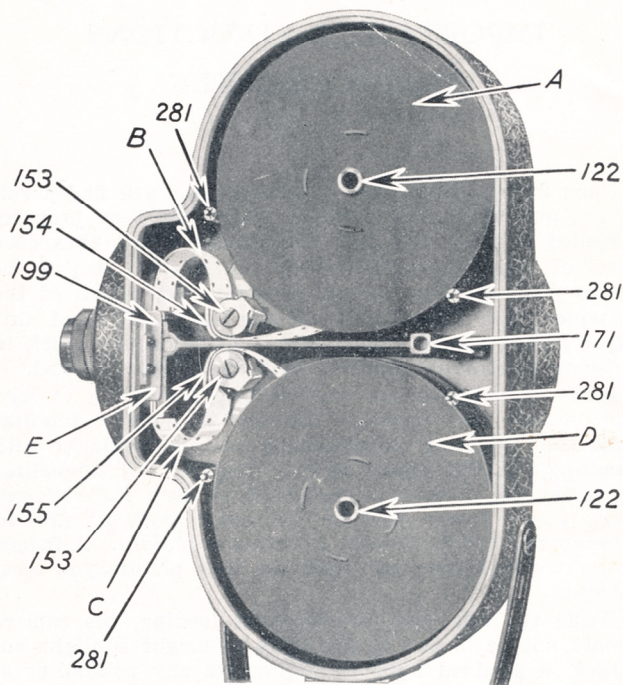
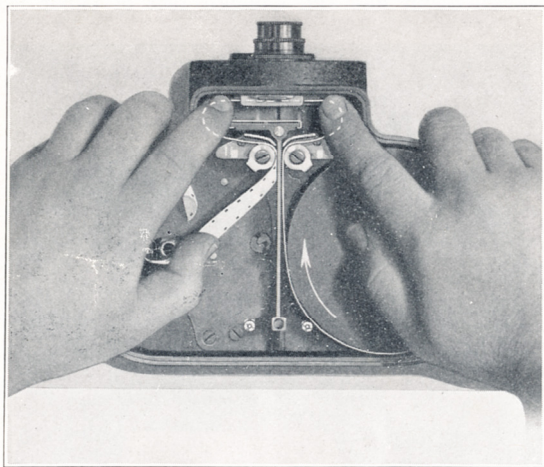

Fig. No. 5
Fig. No. 2
2. Form the upper and lower loops (see figure No. 5, page 2), making them approximately the size shown in figure No. 2. Insert leader in the film channel by slightly raising the outer edge of part (199) (it has spring tension), allowing perforation of leader to enter the shuttle teeth of film movement mechanism at point marked "E" (see figures No. 5). Perforation should also be properly entered on both the upper and lower sprocket teeth. Now
make close observation of fig. No. 2, which shows the proper formation of the upper and lower loops, the manner of inserting the leader in the film aperture channel and the method of engaging the film perforations of the paper leader with the shuttle teeth as well as the teeth of the upper and lower sprockets.